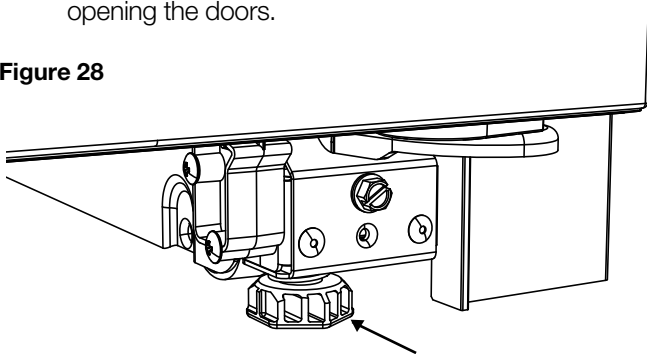

Figure 28
- f. Adjust the leg levellers (Fig. 28) so that they touch the ground and can't be rotated further by bare hands. This will stop the refrigerator rolling forward when opening the doors.